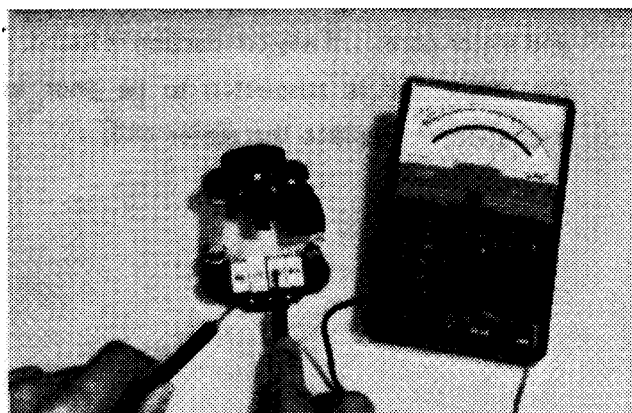

Figure 49
9. Check each diode in the rectifier for conduction (Fig. 49). Connect an ohm meter across the lead wire and diode case. The diode is normal if its resistance is large in one direction and small in the reverse direction. If there is equal resistance in both directions the diode is damaged. Replace the rectifier assembly if a diode is damaged.